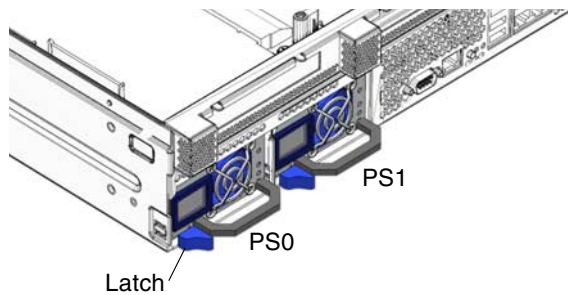

FIGURE 3-70 Power Supplies Locations
1. Identify which power supply requires replacement (FIGURE 3-70).
3. Grasp the power supply handle and push the power supply latch to the right (FIGURE 3-70).